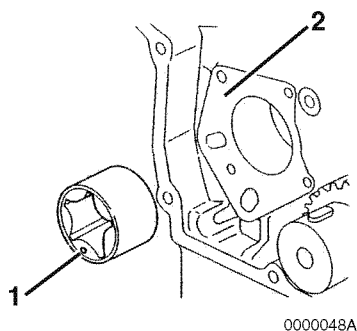

Figure 9-10
2. Install the outer rotor in the gear case housing. Punch mark **(Figure 9-10, (1))** on end of the outer rotor must face away from the gear case housing **(Figure 9-10, (2))**.